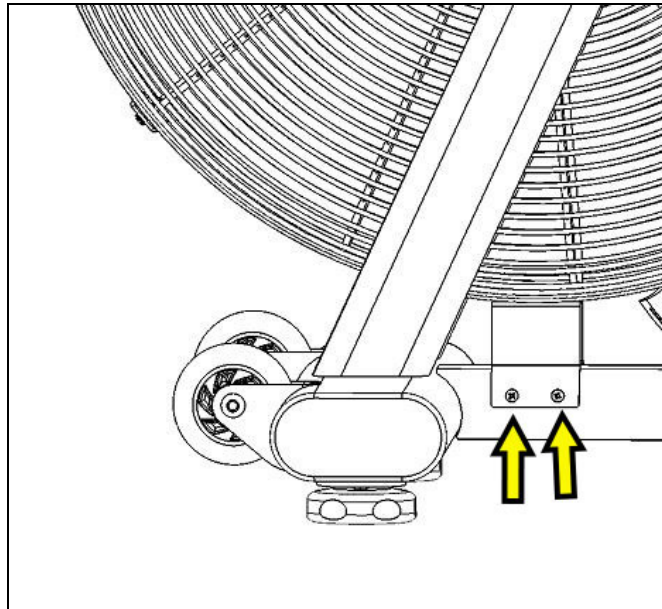

Fig. 13
13. Remove 2 screws on each side holding the fan to the frame (Fig. 13) and pull the fan cage out.